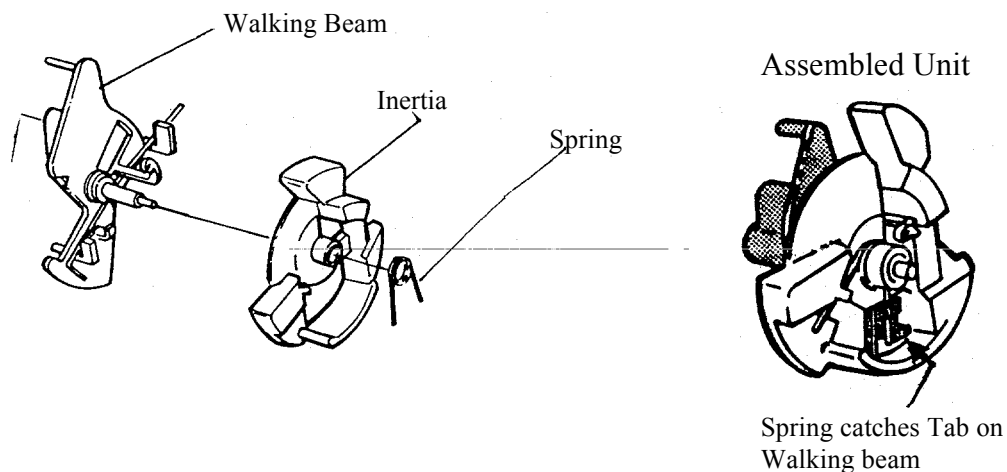

Figure 4-19e Reassembling Walking Beam & Inertia
- c. Reassemble Inertia Assembly to Walking Beam, with Kick Spring and Inertia Springs in place (see Figure 4-19e).